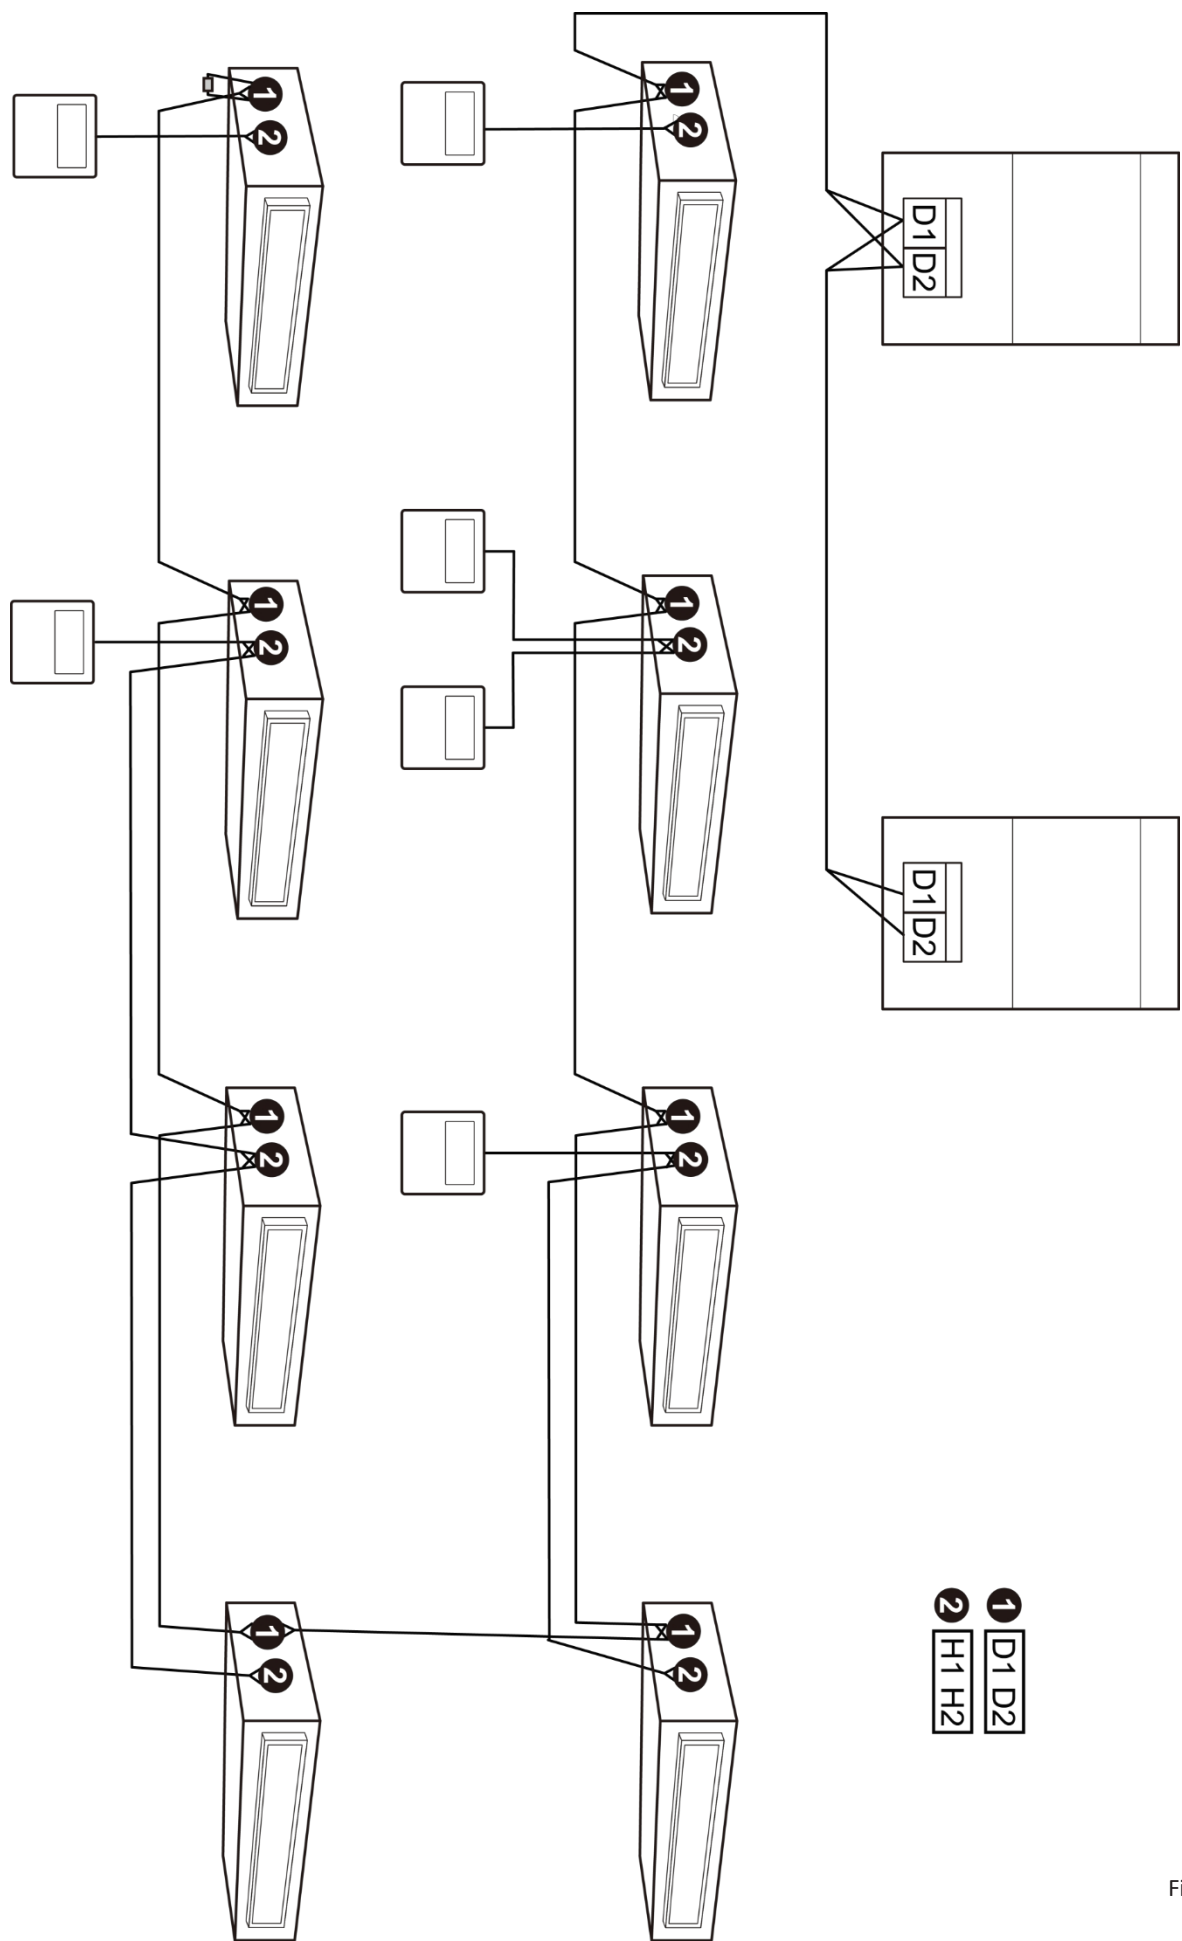

Fig. 5.7
- 4 A wired controller can control 16 indoor units simultaneously. (see Fig. 5.7)